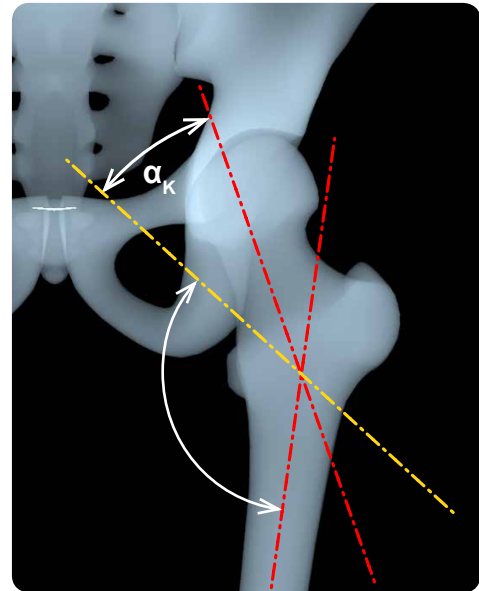

FIG. 2
- α_k - is the angle between the axis of pathological neck of the hip joint and the desired axis of the neck (Fig. 2).